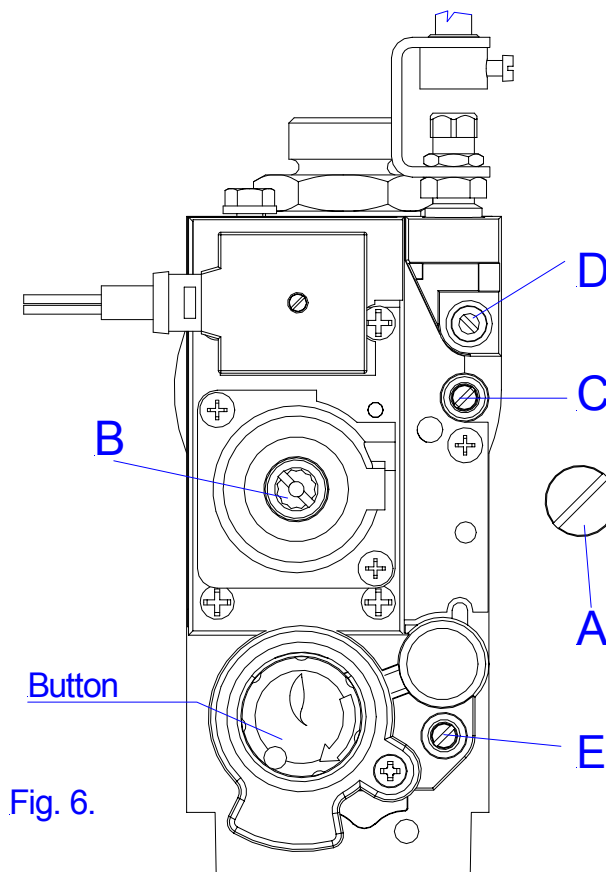

Fig. 6.
- Connect a pressure gauge to stub C after loosening of closing screw. Pressure of connecting gas can be measured on stub "E" in case of necessity (Fig. 6.).